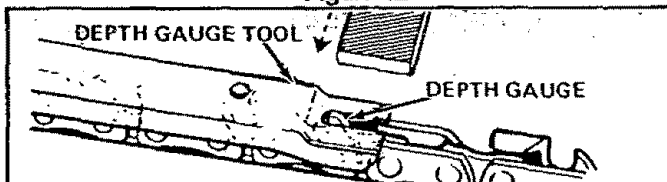

Figure 43
- a.) Place depth gauge tool (Catalog No. 71-36557) over each cutter depth gauge. Figure 43.